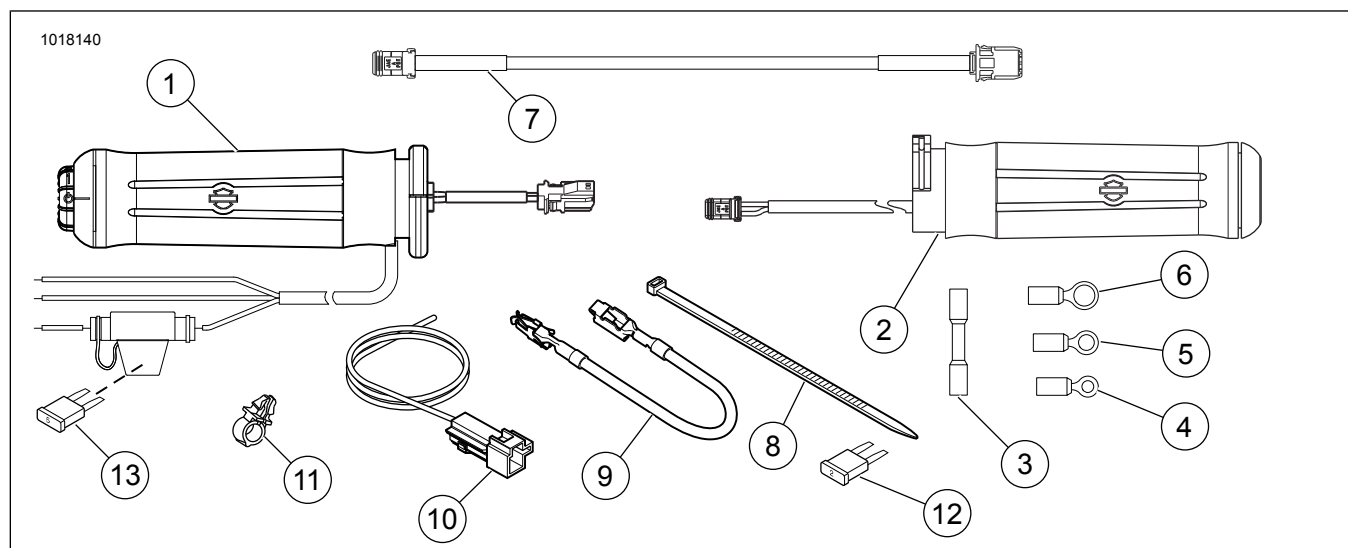

Figure 22. Service Parts, Heated Hand Grip Kits
1. See Figure 22. Select the correct ring terminal (4, 5 or 6) from the kit to fit the silver terminal stud (with the red wire) on the circuit breaker.
2. See Figure 22. Select the correct ring terminal (4, 5 or 6) from the kit to fit the silver terminal stud (with the red wire) on the circuit breaker.
2. See Figure 22. Plug the adapter harness (10) from the kit into the B+ connector.
See Figure 22 and Table 1.